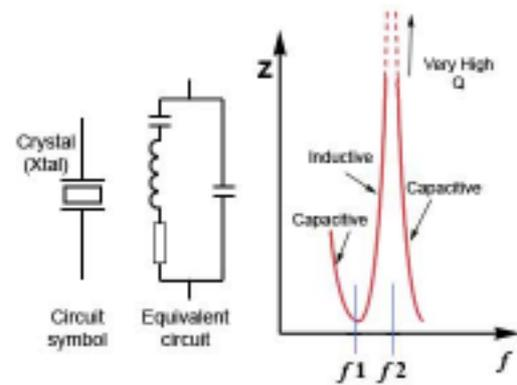

Fig. 2.5.3 The Quartz Crystal
Fig 2.5.3 shows the circuit (schematic) symbol for a quartz crystal and its equivalent circuit. Notice that in effect it contains all of the properties (L, C and R) normally associated with a tuned circuit. It can therefore be used to replace either a series tuned circuit or a parallel tuned circuit, and the graph of its impedance (Z) shows two resonant frequencies f_1 and f_2 . When used in series mode the crystal exhibits very low impedance at f_1 , and in parallel mode, a very high impedance at f_2 . In practice, because of the extremely narrow bandwidth caused by the crystal's very high Q factor, these frequencies are close enough together to be considered the same for many purposes.